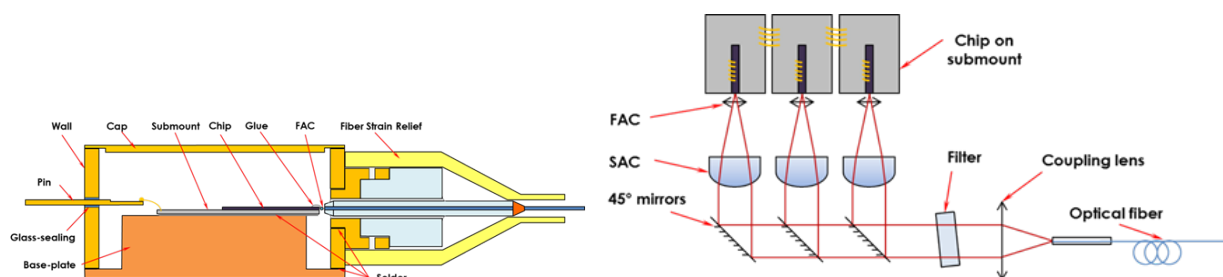

Figure 19 : Example of construction of a single element laser diode (left) and multiple (3)-element laser diode (right)
There are 3 types of Multimode fiber coupled laser diodes (see Figure 18 and Figure 19):
- **Multi emitters:** when several emitters are separated and optically coupled together with other isolated emitters in a multimode fiber (Figure 19-right). The level of output power is thus scalable up to several hundred watts and the size of the fiber can be kept small like 100 or 200 μm core.
Figure 19 shows some examples of the construction of a single element and multiple element laser diode. One can see that separating several laser diode elements and combining their laser light into a single fiber allows the increase of the power/surface at the fiber. On the other hand, a laser diode bar is strongly asymmetric and makes it more difficult to inject light in a circular fiber. This makes the minimum fiber diameter of a laser bar technology generally larger than for a multi-element technology.